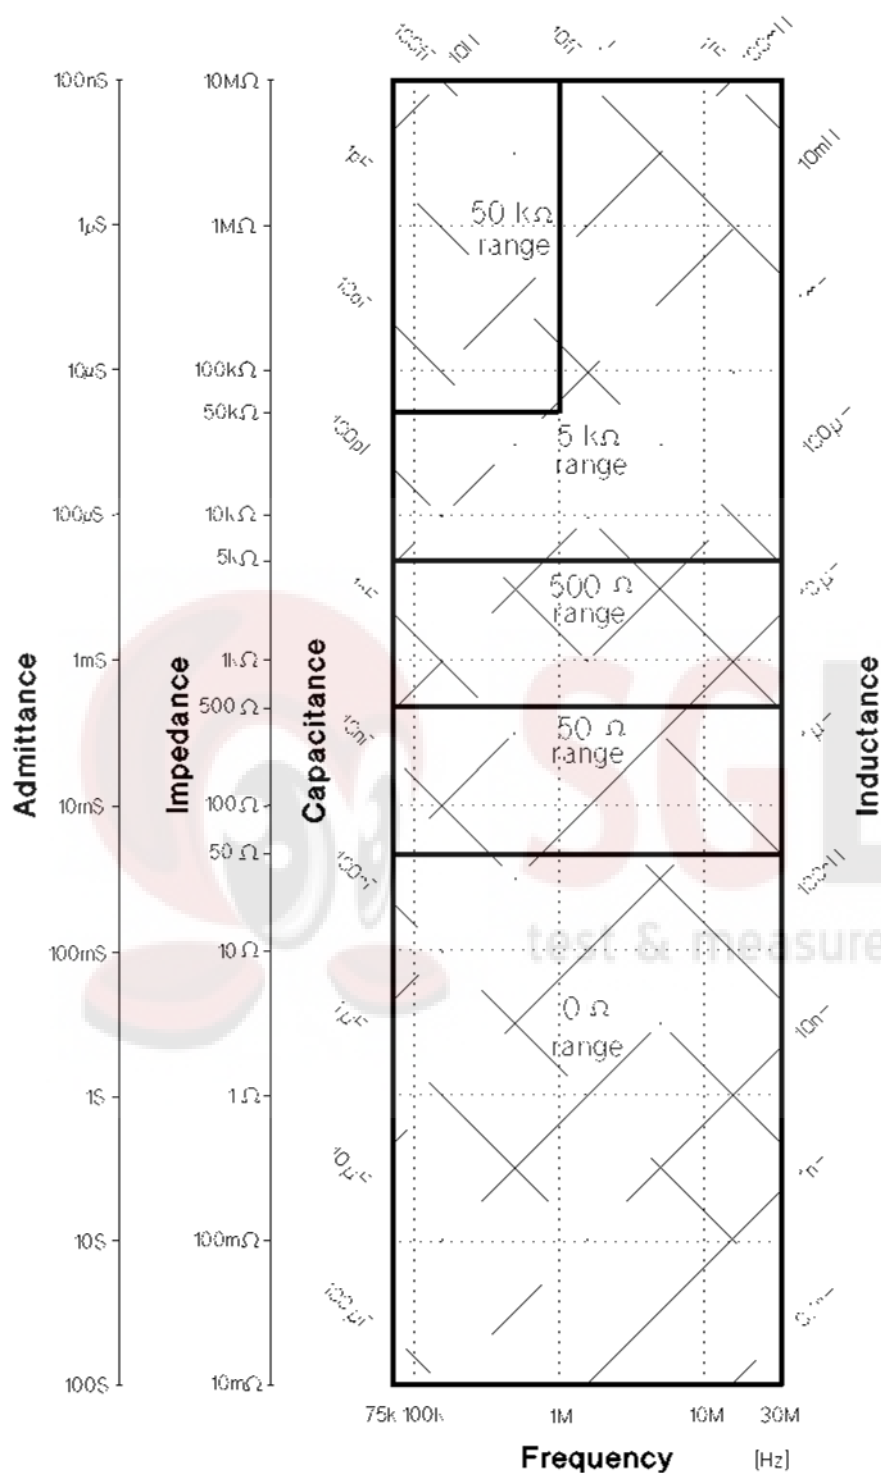
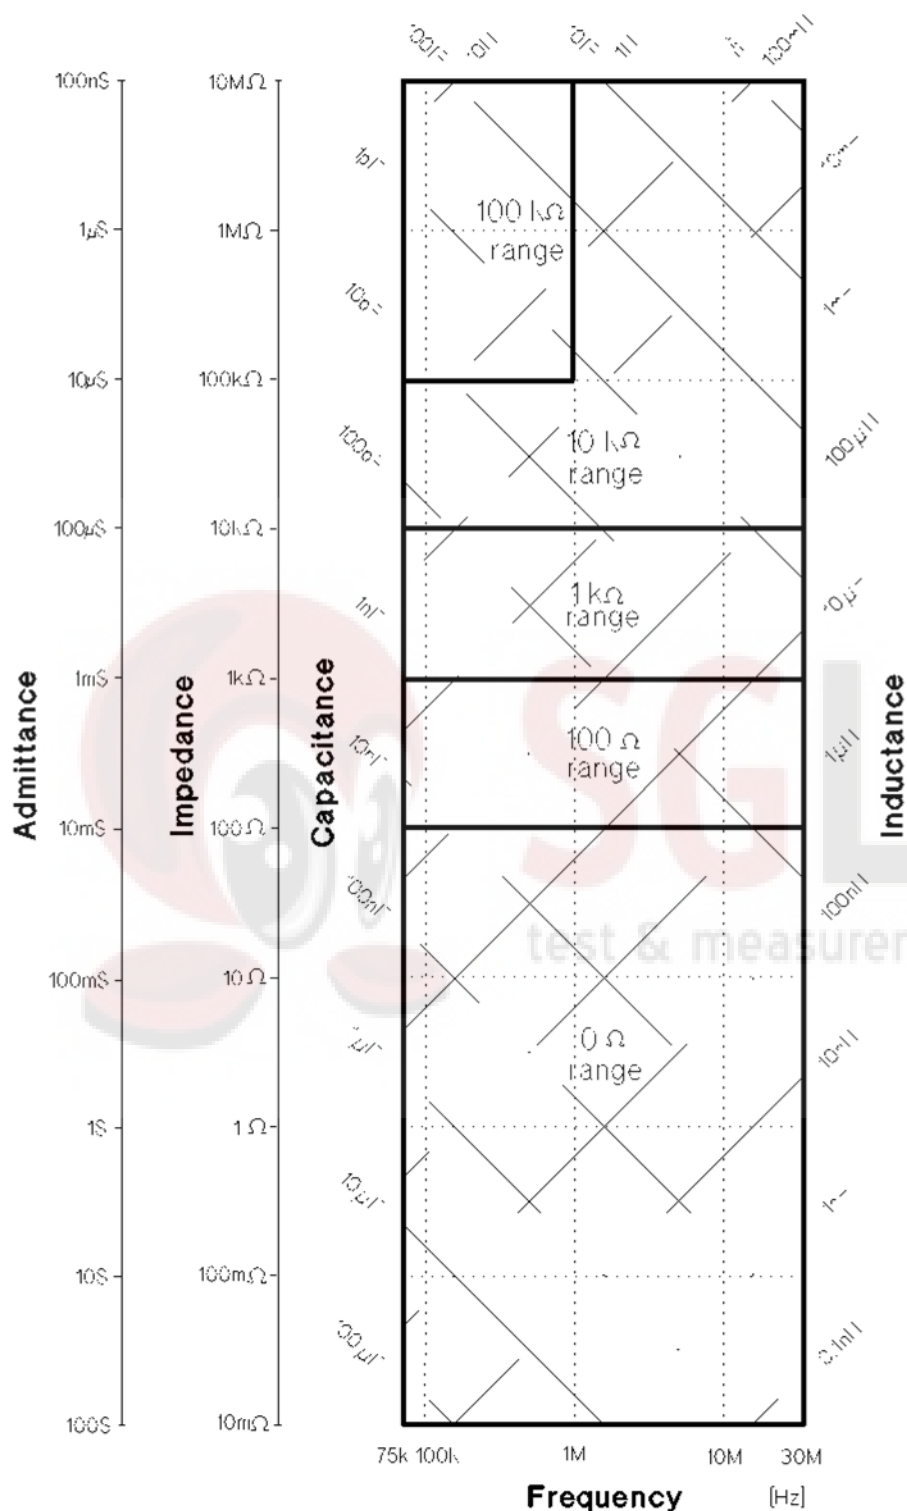

Figure 1-1. Effective measurement range (oscillator level  $\leq 1 V_{rms}$ )
Figure 1-2. Effective measurement range (oscillator level > 1 Vrms)
- The optimum measurement range is selected by matching the DUT's impedance to the effective measuring range shown in Figure 1-1 and Figure 1-2. (For example, if the DUT's impedance is 3 k $\Omega$  and oscillator level is less than or equal to 1 V, the optimum range is the 500  $\Omega$  range.)